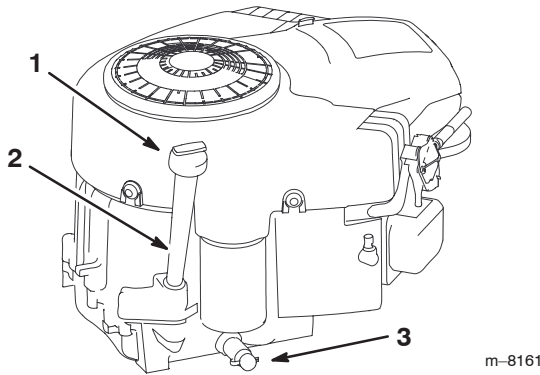

Figure 16
2. Clean around the oil dipstick (Fig. 16) so that dirt cannot fall into the fill hole and damage the engine.
10. Clean around the oil dipstick and unscrew the cap (Fig. 16).
11. Slowly pour approximately 80% of the specified oil into the filler tube (Fig. 16). Refer to Servicing the Engine Oil, page 21.